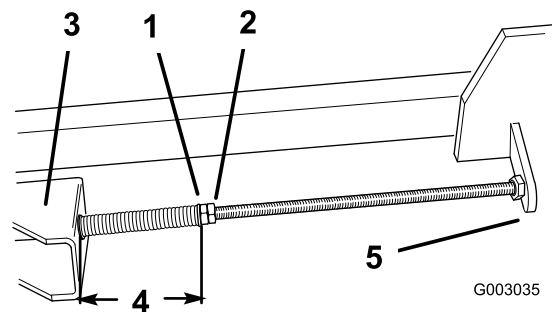

Figure 47
5. Loosen the jam nuts on the adjusting shafts to relieve the tension on the drive belt, then remove the worn drive belt from the pulleys (Figure 47).
cm) measured between the washer and the bushing, then back the front jam nuts off one turn (Figure 47).
9. Tighten the rear jam nuts (Figure 47).